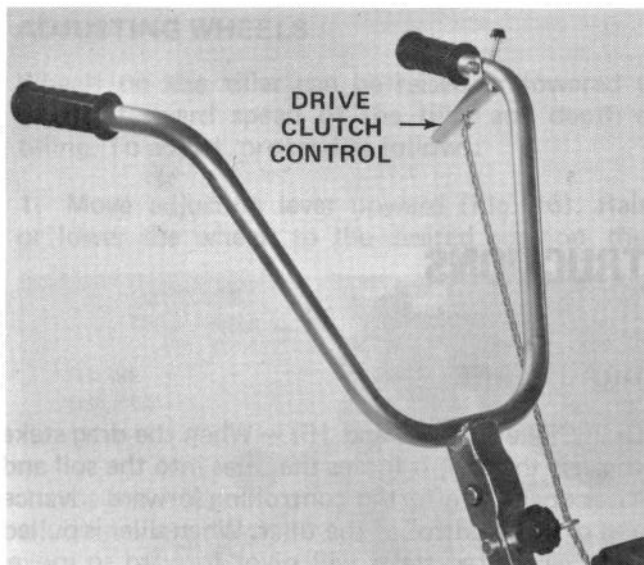

Figure 10
1. Check drive clutch control to make sure it is fully released (Fig. 10).